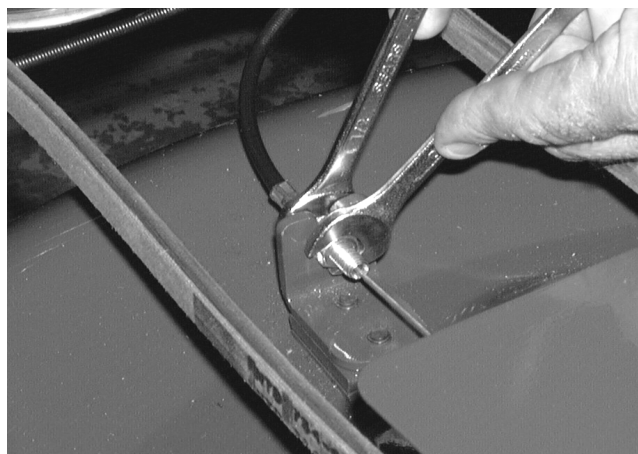

FIGURE 4.
- 7). Locate and loosen the hex jam nuts that secure the threaded end of the deck cable to the deck cable bracket using two 1/2" wrenches. See figure 4.